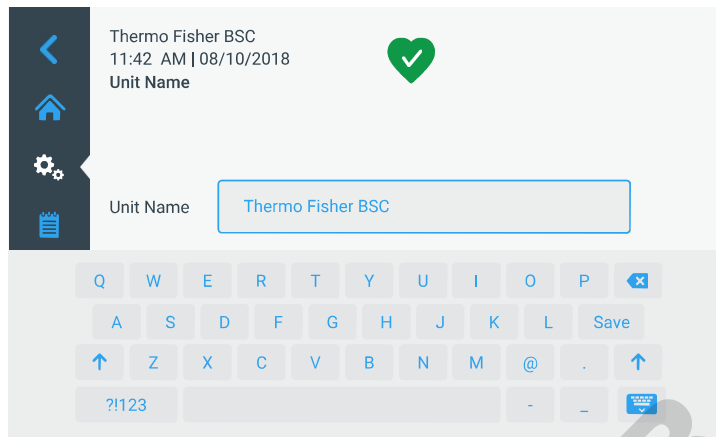

Figure 79 “Display Settings” Screen: “Unit Name” Screen
- Tap on the *“Unit Name”* field to display a full keypad, as shown in Figure 79 below.